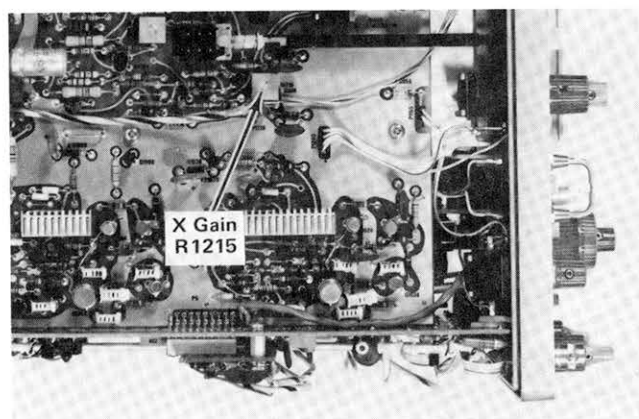

Fig. 5-33. Location of X-Gain adjustment.
d. ADJUST—X-Gain adjustment R1215 (see Fig. 5-33) for exactly four divisions of deflection between the two dots displayed on the CRT.